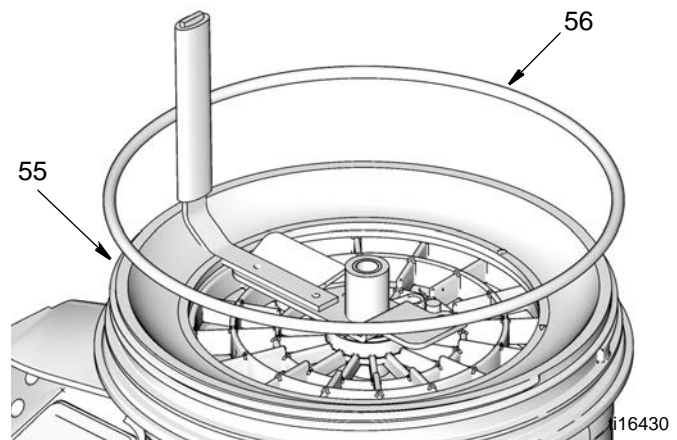

FIG. 17
8. Install o-ring (56) around reservoir adapter (55) as shown in (FIG. 17).